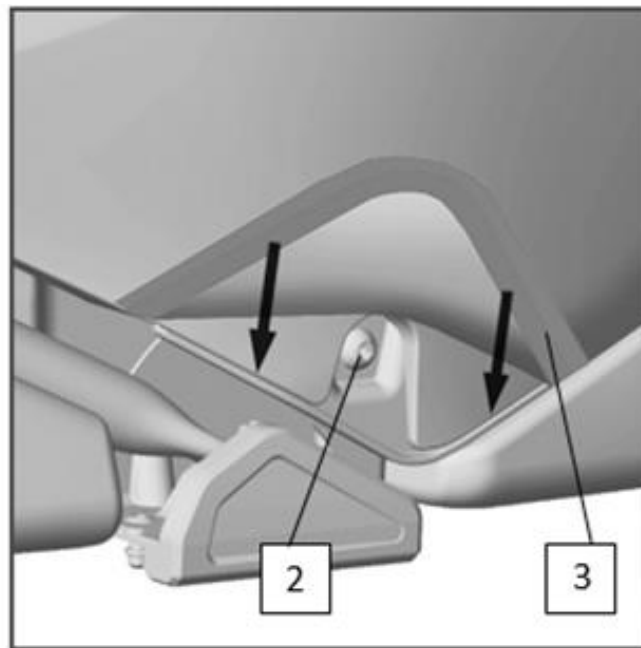

Fig. 24
2. Fix the seat with two socket head cap screws on both sides (posture 2, Fig. 24).
3. Tighten the fixing elements of the seat cover (Pos. 3, Fig. 24) and tighten it behind the base.